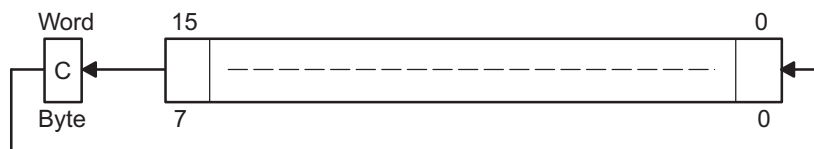

Figure 3-16. Destination Operand - Carry Left Shift
The destination operand is shifted left one position as shown in Figure 3-16. The carry bit (C) is shifted into the LSB and the MSB is shifted into the carry bit (C).